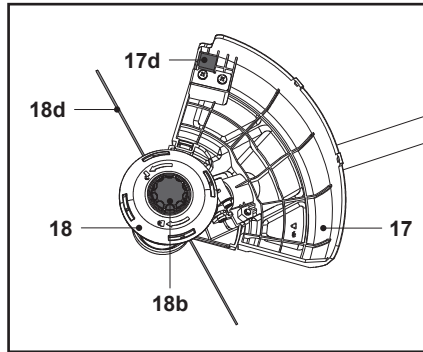

Fig. 24
1. Tap the bumper (18b) on solid ground and the trimmer head (18) will release trimming lines (18d).
2. Excess line will be cut by the knife (17d) (Fig. 24).